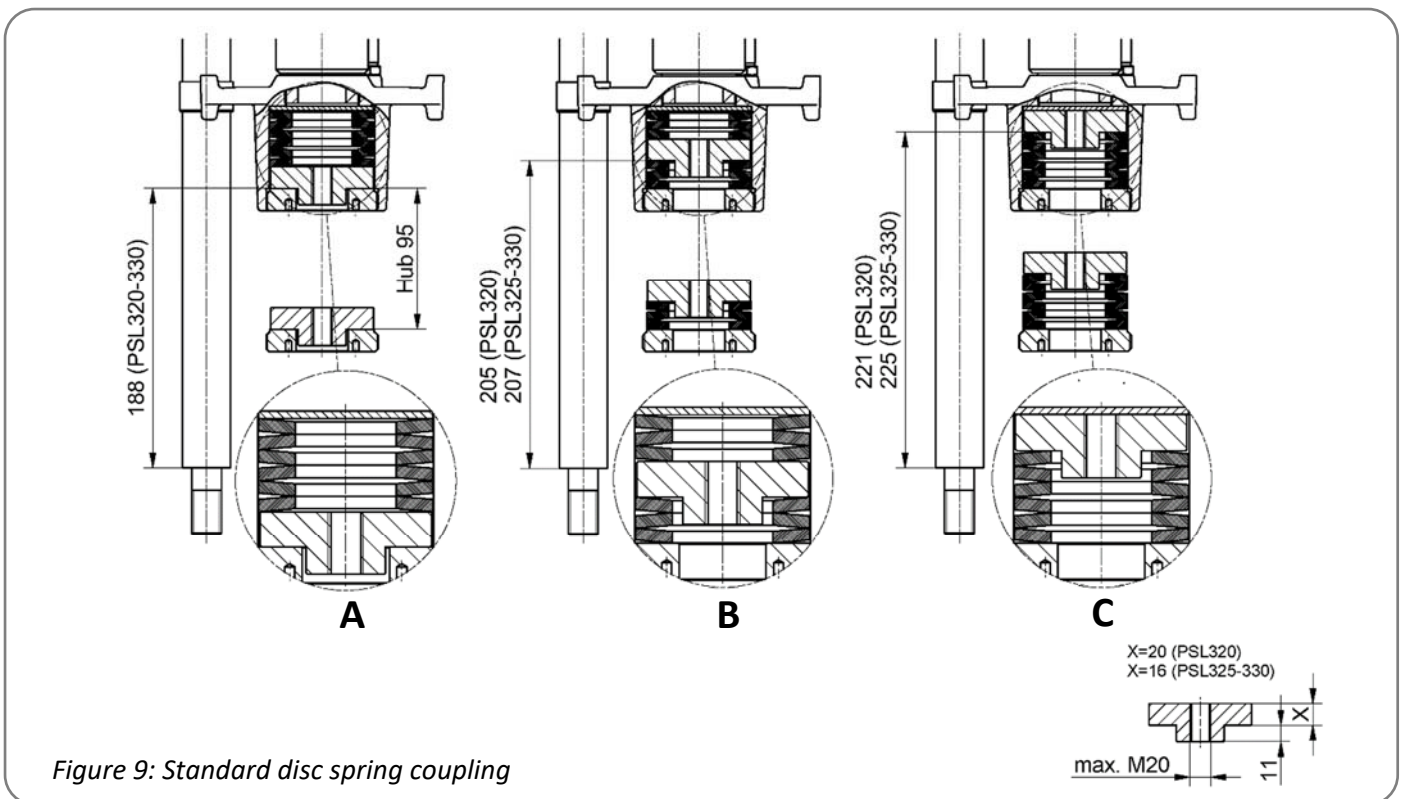

Figure 9: Standard disc spring coupling
- Unscrew the locking nut (item 5) from the spindle nut (item 1) and slide it over the valve stem (item 9).
- See if the bore of the coupling piece (item 3) fits to the valve stem. If necessary, rebores and/or recut the thread.
- Slide or screw the coupling piece onto the valve stem and bore or pin to the valve stem. You may also secure the coupling piece by using a counter nut (item 4) (Lay the disc springs according to Figure 9).
- Slide the pillars into the bore holes of the mounting bracket (item 6) and tighten with the pillar nuts (item 7).
- A: Arrangement for a through-valve with "Valve stem retracting" as direction of closing (*Figure 9*).
- B: Arrangement for a 3-way valve (*Figure 9*).
- C: Arrangement for a through valve with "Valve stem extending" as direction of closing (*Figure 9*).